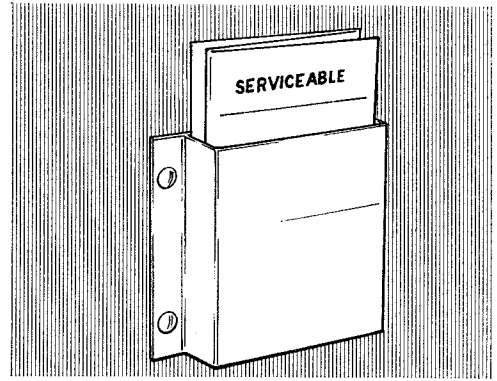

Fig 2 F4021A in holder
8. The lower part of the document provides a 'change of serviceability and repair log' that is completed by a tradesman who carries out rectification and repair work. When form 4021A is correctly folded and inserted into its holder, that is attached to the class 1 equipment, it indicates the item's condition, either serviceable or U/S (unserviceable) (Fig 2).